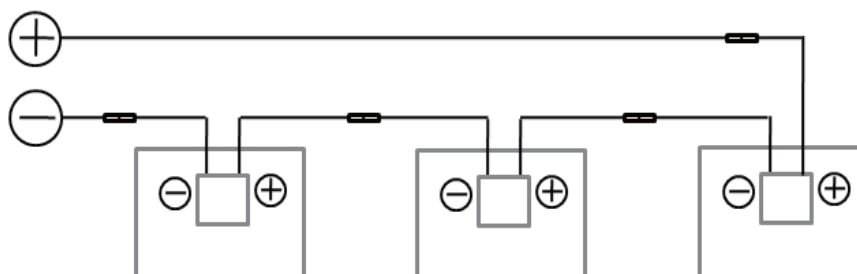
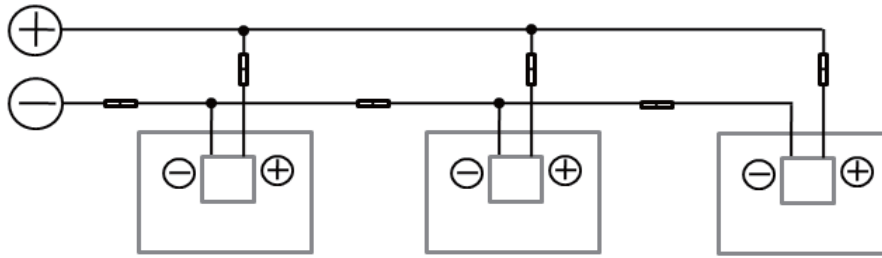
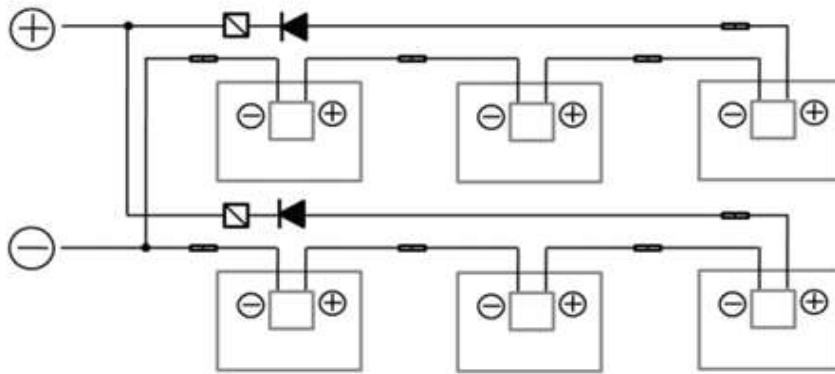

Fig. 10-1 Series Connection
Fig.10-2 Parallel Connection
Fig.10-3 Parallel-series Connection
- The Direct Current (DC) generated by the PV system can be converted to Alternating Current (AC) and connected to the public power grid. Different regions may have different policies, laws and regulations to stipulate the installation and grid-connection requirements of PV systems. Therefore, during the design, installation and grid-connection of PV system, please comply with the local policies, laws and regulations.
- In order to ensure the normal running of the system, when connecting modules or loads, please ensure that the polarity of the cable connection is correct. If the modules are incorrectly connected, the bypass diodes and junction boxes may be damaged. PV modules can be connected in series (Fig. 10-1), in parallel (Fig.10-2) and in series-parallel (Fig. 10-3). The number of serial or parallel connections shall be reasonably designed according to the system configuration. Also note that if the number of parallel connections  $\geq 2$ , there must be an over-current protection device on each string assembly.